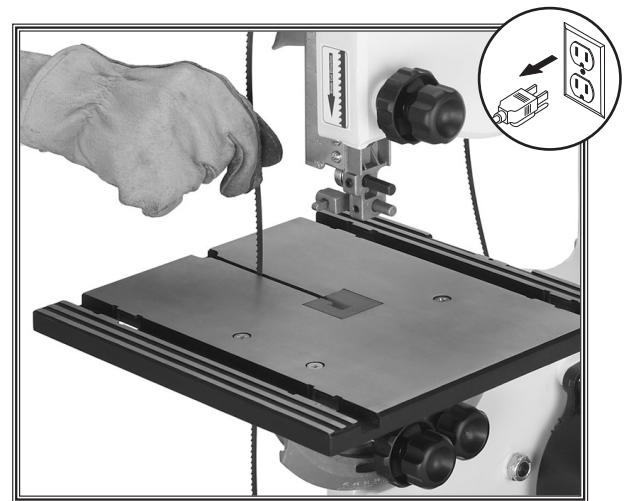

Figure 51. Blade installation.
1. Slide the blade through the table slot, ensuring that the teeth are pointing forward and down (**Figure 51**) toward the table.